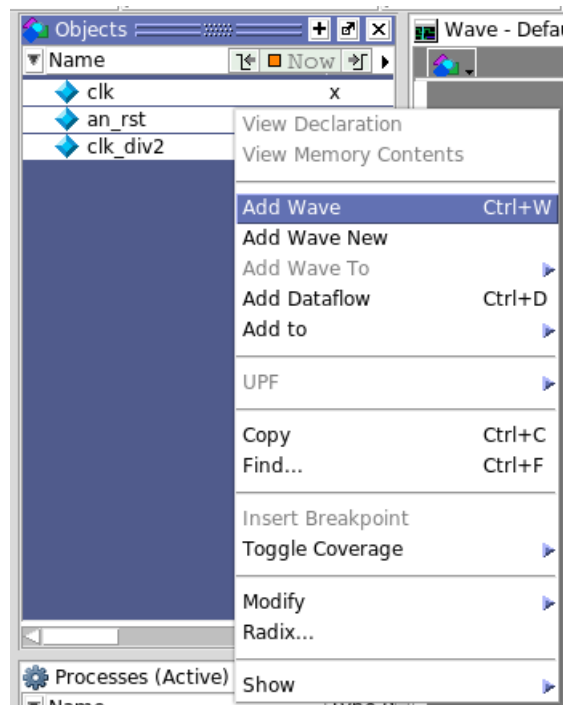

Figure 10: Adding waveforms.
9. In the **Objects** panel select all signals, right click and select **Add Wave** as shown in Figure 10.